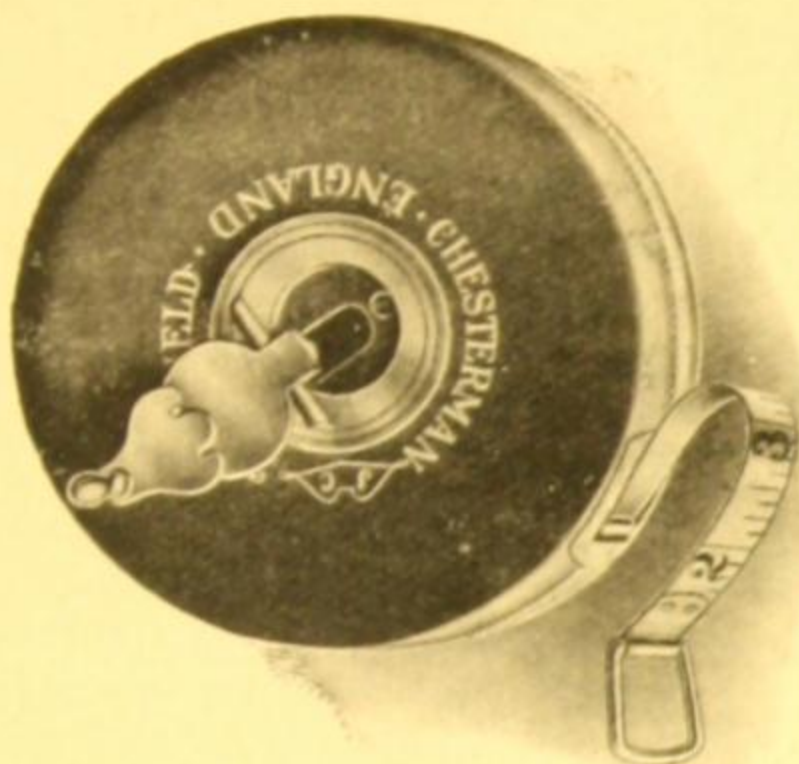

Fig. 52.
**Steel Tape Measure** in leather case with handle made to fold flush, leaving no projection. This is the most accurate form of tape and is "standard" at a temperature of 62° Fahr. The tape is made in three different widths as enumerated and can be supplied marked on one side only or on both sides. Feet are divided into inches and 8ths. Metres are divided to centimetres and millimetres. Fig. 52.